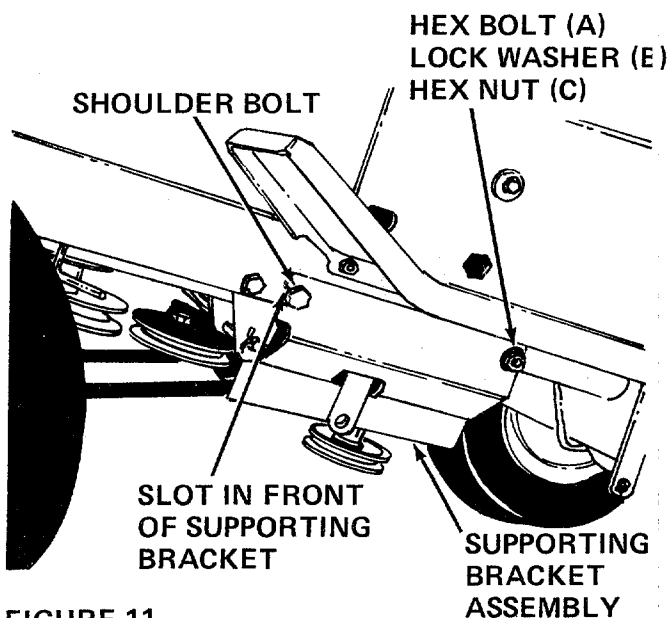

FIGURE 11
14. The front slots on supporting bracket go over the shoulder bolts on tractor frame. See figure 11.
15. Secure rear of supporting bracket to tractor frame with two hex bolts (A), lock washers (B) and hex nuts (C). See figure 11. A 9/16" wrench or adjustable wrench are required.